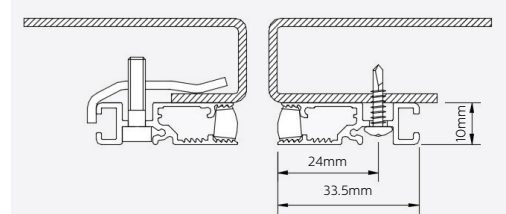

Fig 1: E10 with Fixing Clamp on left (ordered separately) & Self-Tapping Screw on right
1. Install the detectors using the fixing kits provided (see Fig 1.) Clamps must be ordered separately (E10 803).